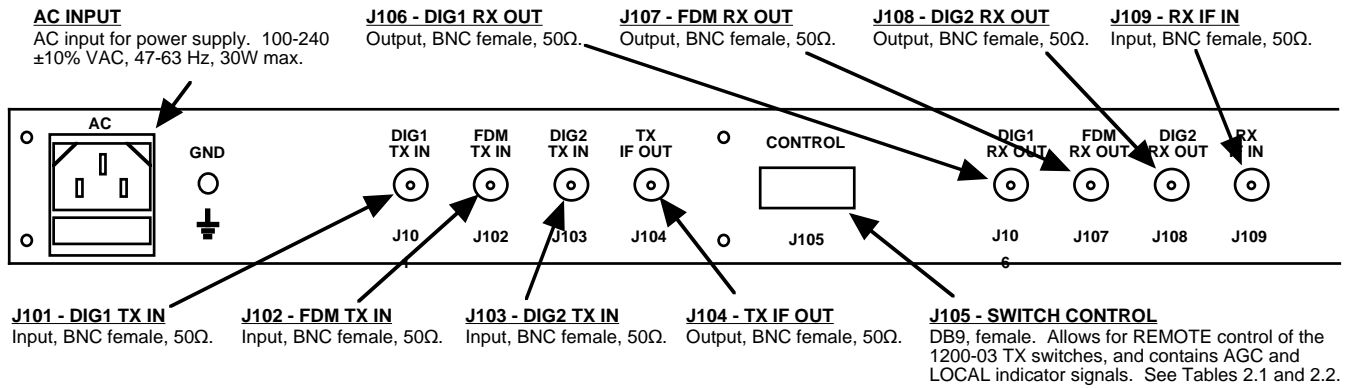
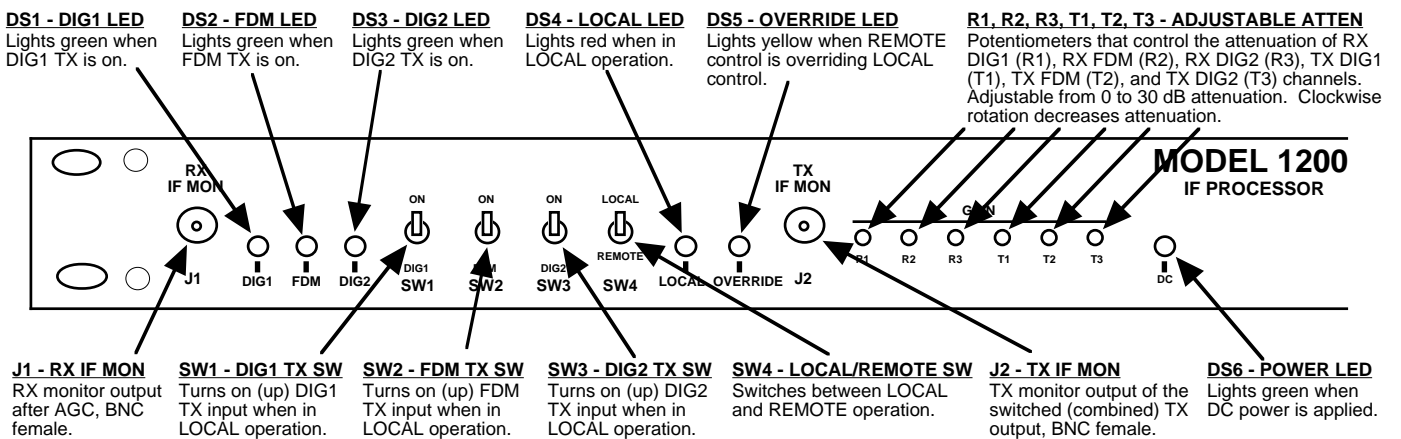

FIGURE 2.2 1200-03 Rear Panel I/Os and Control
FIGURE 2.3 1200-03 Front Panel Controls and Indicators
2.2 Rear Panel Input/Output Signals and Controls - Figure 2.2 and Table 2.1 show the input, output, and control connectors on the rear panel.
- 2.) Connect to signals on the CONTROL connector, J105, as desired (Figure 2.2).
- 3.) Connect 100-240 \pm 10% VAC, 47 - 63 Hz to AC IN on the back panel (Figure 2.2).
- 4.) Be sure the DC (power) LED, DS6, is on (Figure 2.3).
- 5.) Set SW4 for REMOTE or LOCAL operation (Figure 2.3).
- 6.) Choose the desired TX path(s) either remotely (J105, Figure 2.2) or locally using the front-panel switches (SW1 - SW3, Figure 2.3) and check for proper signal(s) at TX IF MON (J2, Figure 2.3) or TX IF OUT (J104, Figure 2.2) and that the appropriate LED(s) (DS1 - DS3, Figure 2.3) is lit.